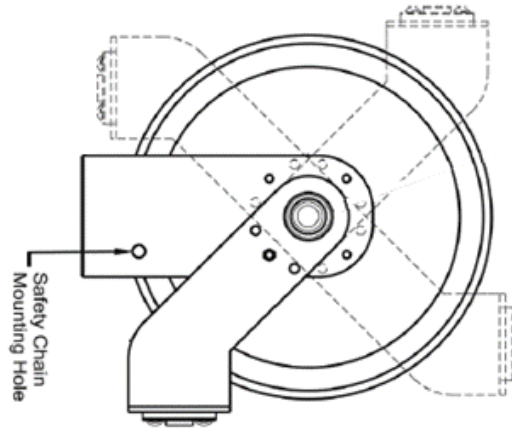

Figure 2-5 EVOREEL Cable Guide Bracket Adjustment
10. Once both units are installed, adjust the EVOREEL cable guide bracket assembly to allow the cable guide and EV Charging Cable/Plug assembly to point/position in the downward direction as shown in Figure 2-5. The roller guide arm can be adjusted by removing the 5/16 hex head bolt and lock washer and rotating the bracket to the downward position. Once repositioned, reinstall the 5/16" hex head bolt and lock washer. (Note: If required for
local building codes, an optional Safety Chain Mounting Hole is part of the EVOREEL main bracket as shown in Figure 2-5).